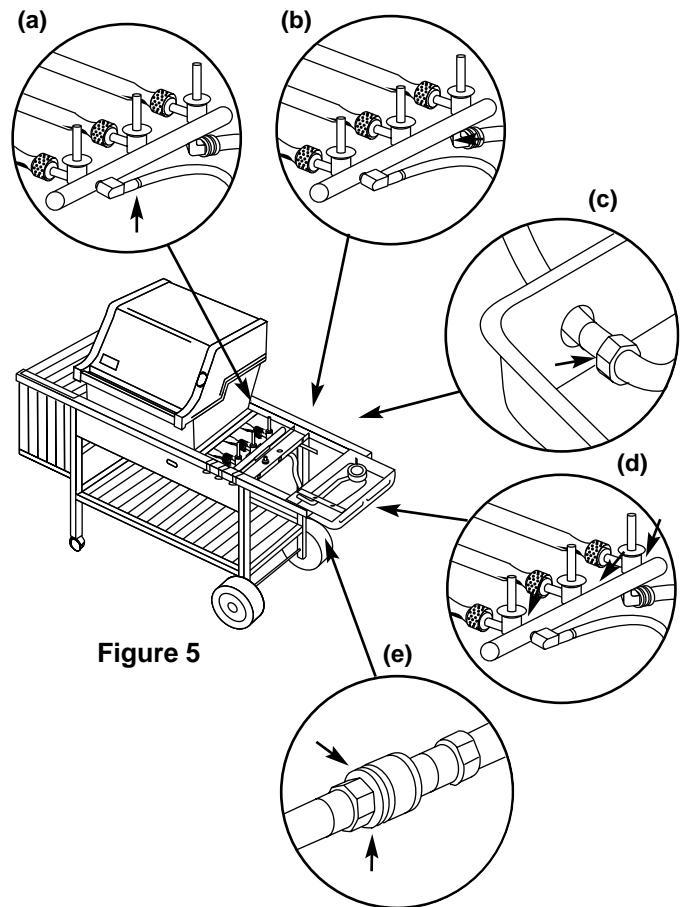

Figure 5
- a) Hose to manifold connection. Figure 5 (a).
- b) Manifold to side burner hose connection. Figure 5 (b).
- c) Side burner hose to side burner connection. Figure 5 (c).
- d) Valves to manifold connections. Figure 5 (d).
- e) Hose to quick disconnect connection. Figure 5 (e).